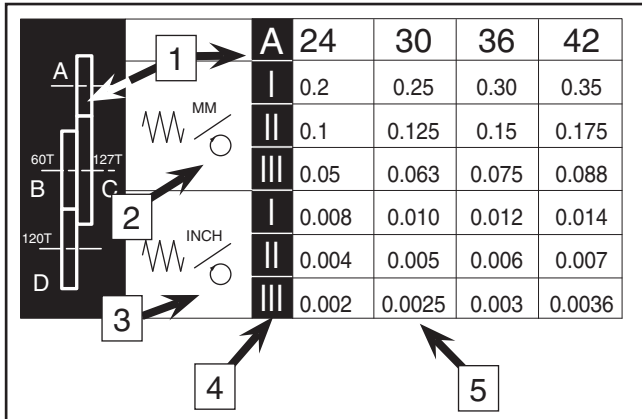
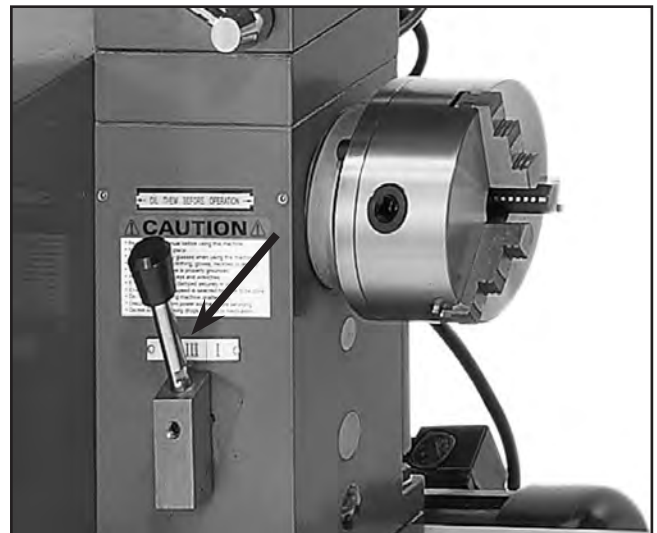

Figure 38. Rates given in millimeters and inches.
Figure 39. Feed rate selector set to "III".
Charts for the powerfeed and thread cutting features for the lathe are located on the bottom of the lower belt guard. **Figure 38** shows a segment of the chart for feed rates with a brief description.
Feed rate gear settings are detailed in **Figure 38**. In the example below we will be selecting gears for a feed rate of 0.002" per revolution:
1. Find 0.002" on the chart in **Figure 38**.
4. Change the gears at the B, C, & D locations as necessary (see **Figures 38 & 42**).
To make a cut using a feed rate of 0.002" per revolution, install the 24 tooth gear into position A, (see **Figure 38**) and move the feed lever into position III as in **Figure 39**. For making any other gear changes, see the section titled **Changing Gears** on **Page 39**.